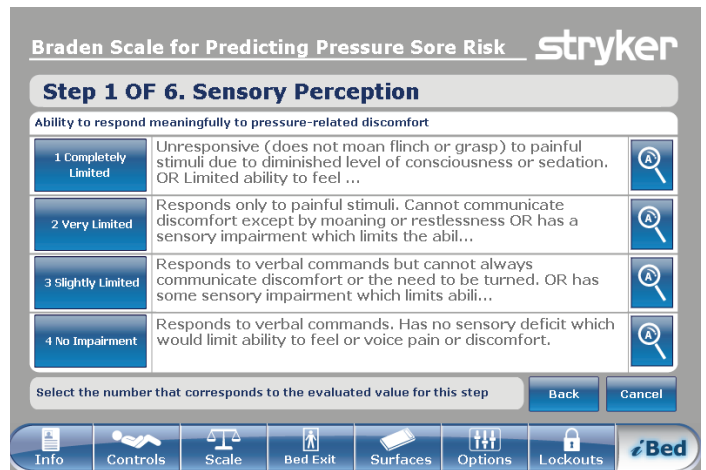
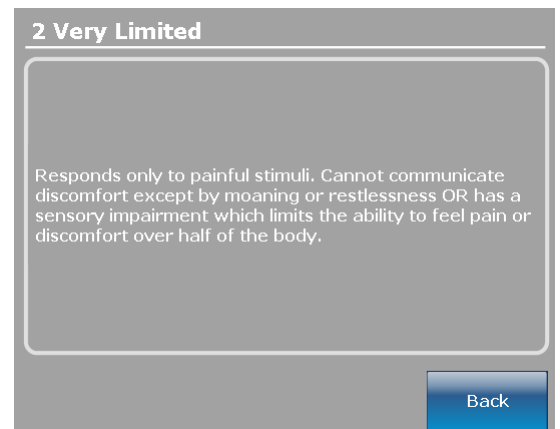

Figure 103 – Braden scale for predicting pressure sore risk
Figure 104 – Complete value information
2. Tap the corresponding value (1–4) in each category (Figure 103).
Note - To view a complete description of a value, tap the magnifying glass icon (Figure 103). Another window appears with the complete value description (Figure 104).